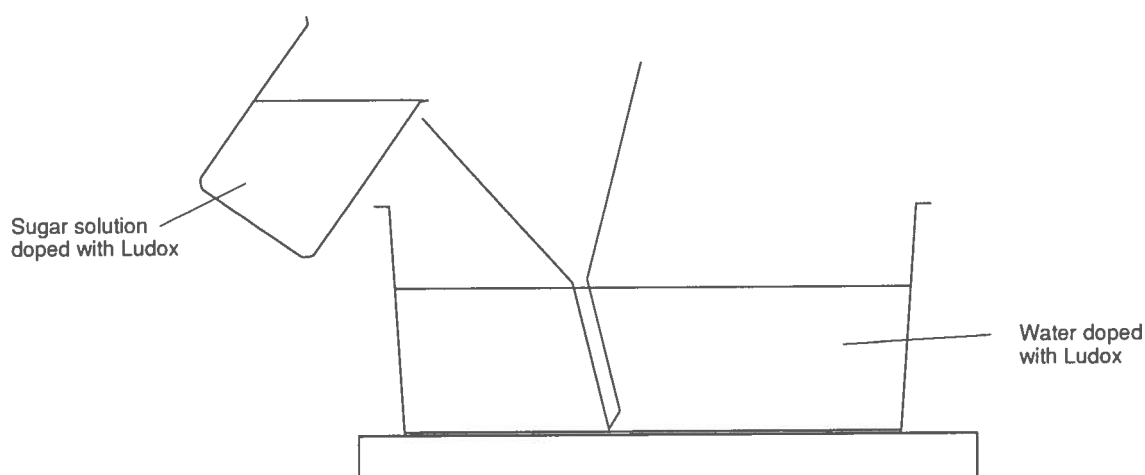

Figure 3. Adding sugar solution to water through a funnel.
3. Slowly pour the sugar solution into the water tank (Fig. 3) using a large funnel. The sugar solution will be seen to sink to the bottom of the tank and a fairly well defined boundary will form between the two liquids.